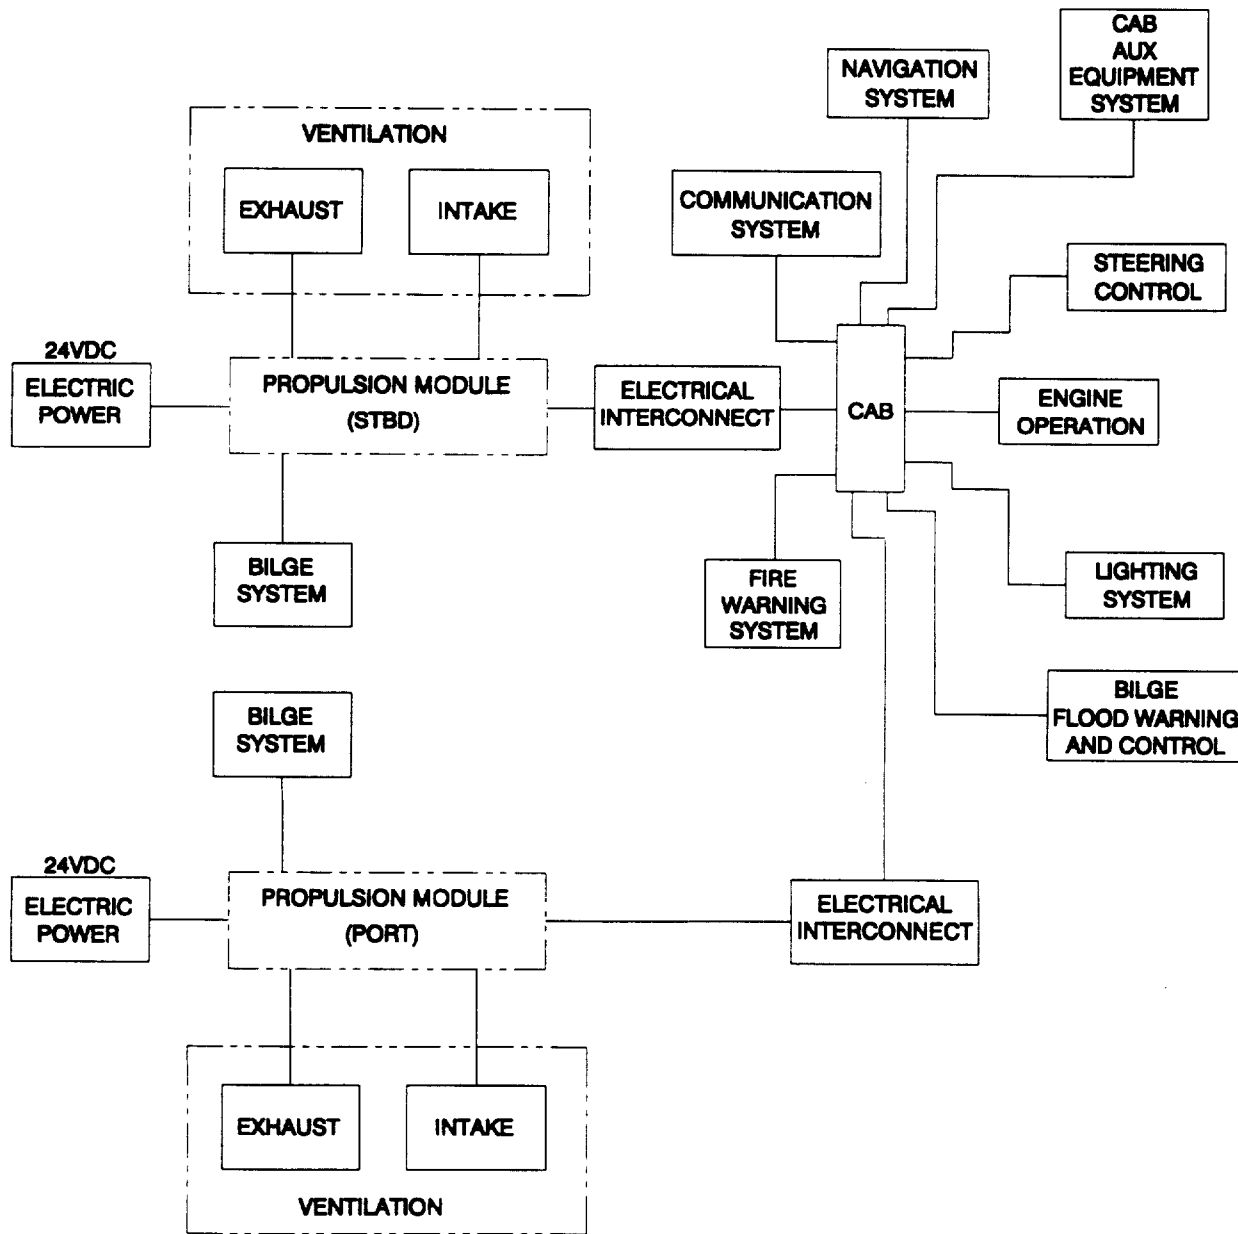

Figure 1-26. MCF Electrical Block Diagram
**1-15 MCF ELECTRICAL SYSTEM.** The MCF propulsion units are supplied with a 24 VDC main power source (Figures 1-26 and 1-27). This provides power to the engine starter solenoid and the operating systems. The main power source is charged from the engine regulator/alternator system via the isolation diode. The propulsion units are also equipped with an auxiliary 24 VDC power supply that is used to operate the Pump-Jet/Thruster indicator directional system. The auxiliary battery units are also charged from the engine regulator/alternator via the isolation diode. The auxiliary battery system provides power in case the main 24 VDC power source fails. The main power source provides power to the main circuit breaker panel for distribution to the operating systems. The power cables feed from the propulsion module through the electrical interconnection box up to the cab.